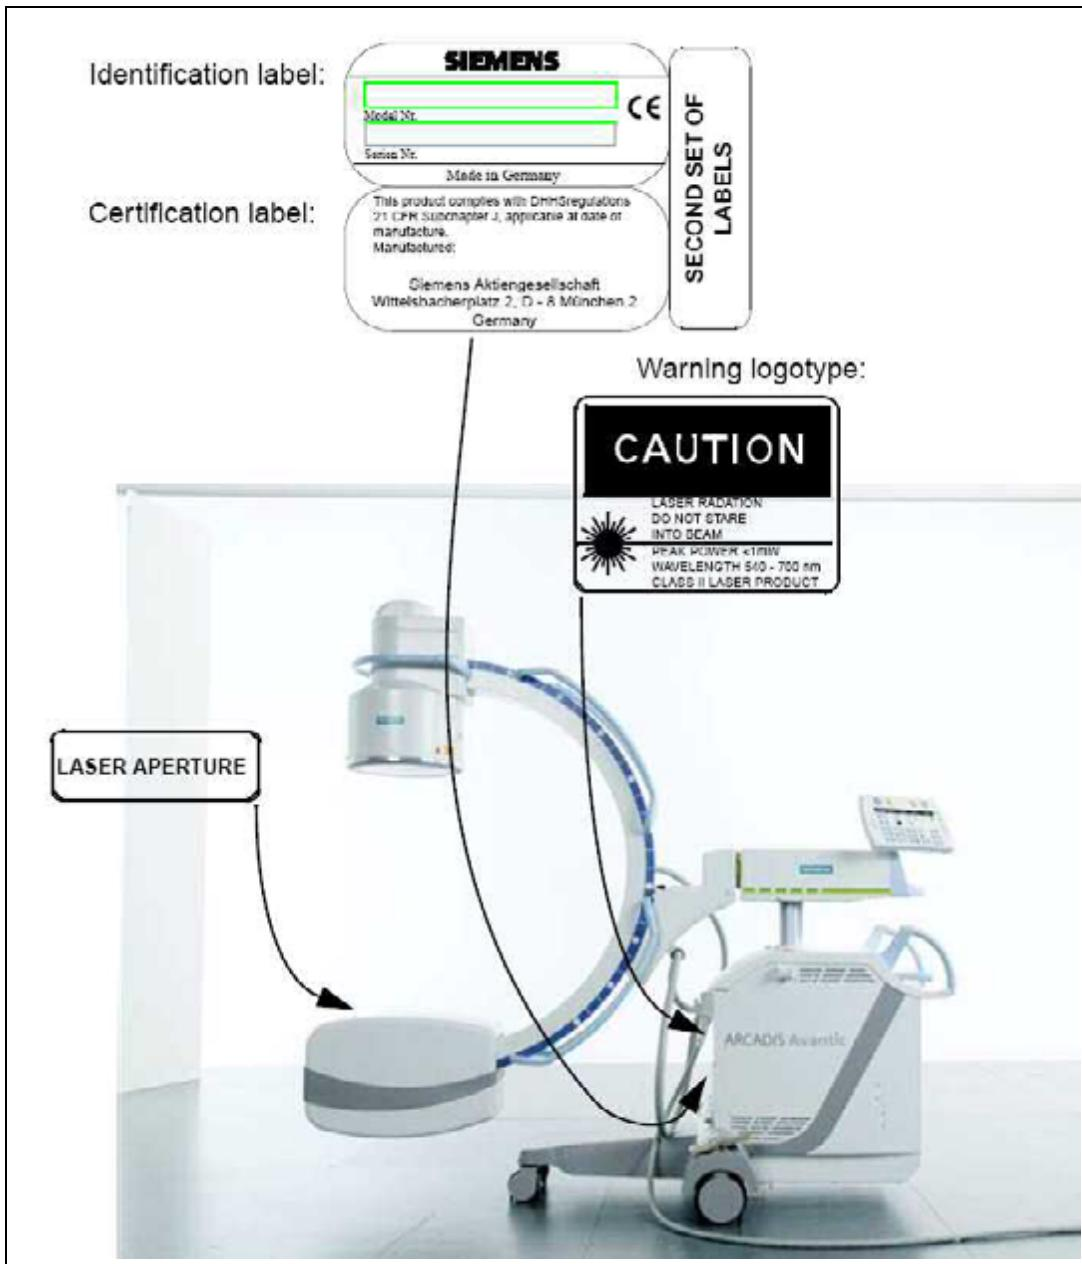
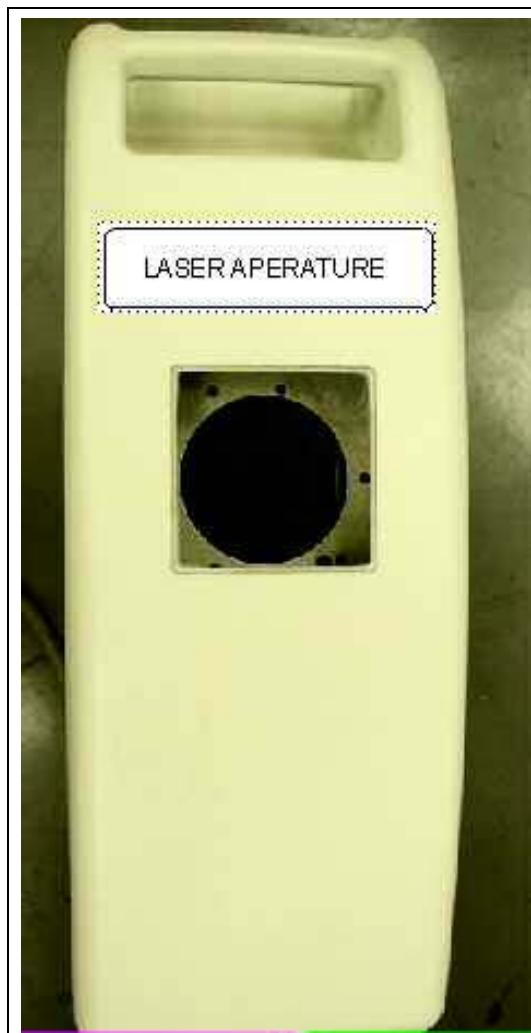

Fig. 5: Stickers_other_countries
Fig. 6: Sticker_laser aperture
- Affix the identification labels provided as shown in (Fig. 5 / p. 16) and (Fig. 6 / p. 17).
- Affix the identification labels provided as shown in (Fig. 5 / p. 16) (other countries).
Great Britain: Affix the warning label according to IEC 825 (text) in the local language, warning label according to IEC 825 (symbol) and identification label. Attach additional laser aperture labels (see (Fig. 6 / p. 17)).